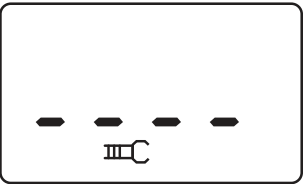

Figure 3
- 1. Open jaw: The jaw is open and unavailable for measurement. The trigger may be pressed or the jaws may be unavailable due to pollution. (see Figure 3)